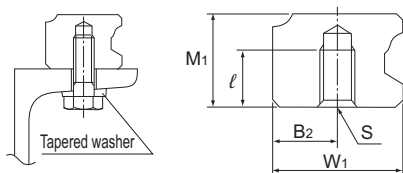

Fig.2
- (1) Determine the bolt length so that a clearance of 2 to 3 mm is secured between the bolt end and the bottom of the tap (effective tap depth).
- (2) As shown in Fig.2, a tapered washer is also available that allows GSR to be mounted on a section steel.
- (3) For model number coding, see **A1-294** to **A1-295**.